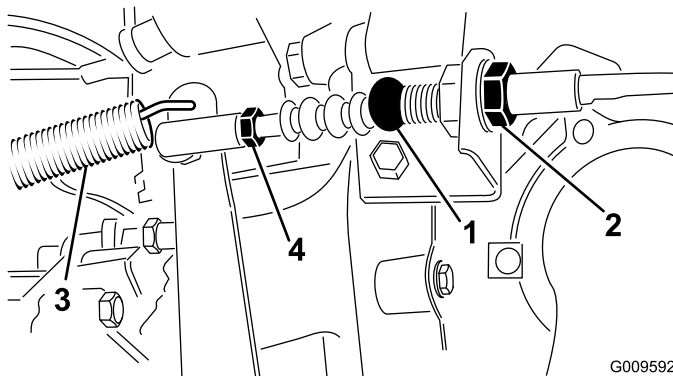

Figure 65
1. Loosen the jam nuts securing the clutch cable to the bracket on the bell housing (Figure 65).